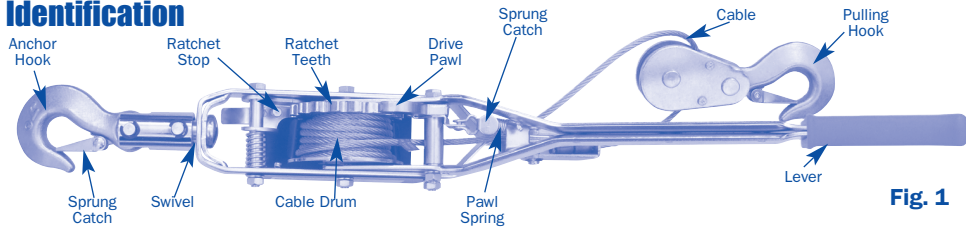

Fig. 1
- Move the lever into the position shown in Fig. 1